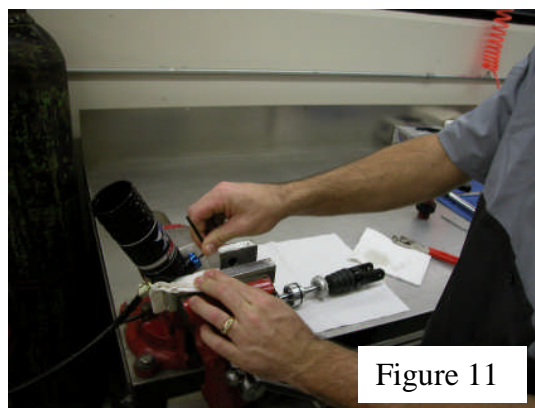

Figure 11
17. Next, inspect the CD adjuster. Using a T15 torx wrench, remove blue CD knob. (**Figure 11**)